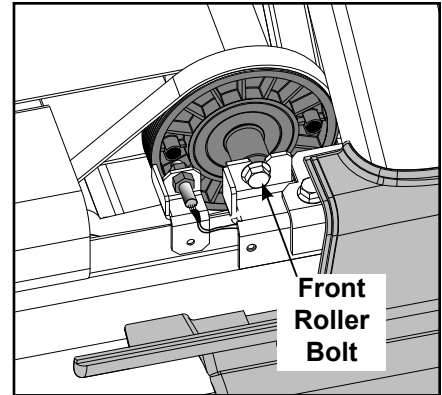

Figure 13
- C. Using a 9/16" socket wrench, loosen the right front roller bolt. See Figure 13. **NOTE:** The right bolt will stay on the front roller. It does not need to be removed for this procedure.
- D. Using a 9/16" socket wrench, loosen the left front roller bolt. See Figure 13.